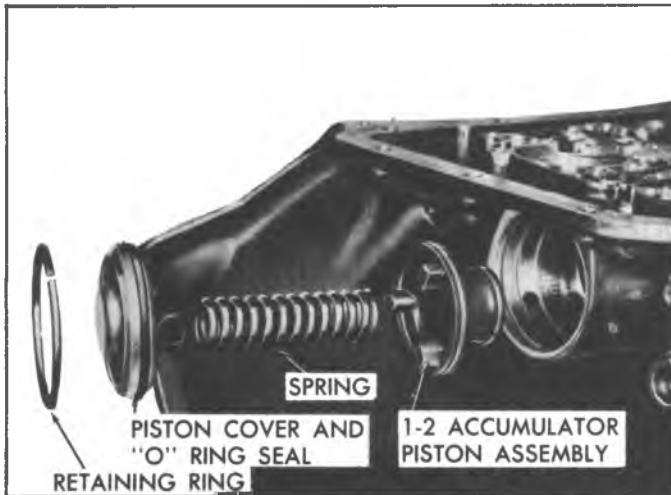

Fig. 50N--1-2 Accumulator Components
28. Remove 1-2 accumulator piston assembly. (fig. 50N).